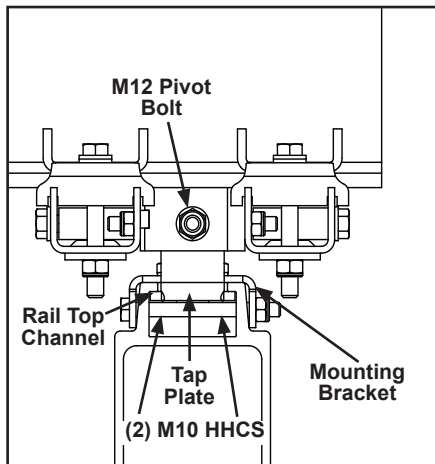

Figure 3-30
- Step 1. Remove cross bolts. Slide rail mounting bracket on top of the bracket channel and tap plate into bracket channel at top of runway rail. Position per system layout. See Figure 3-30.